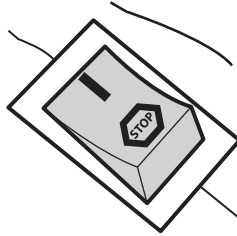

Fig. 19
2. Set the ignition switch (A19) to its on position "I". (See Fig. 19)
2. Set the ignition switch (A19) to its off position "STOP". (See Fig. 19)